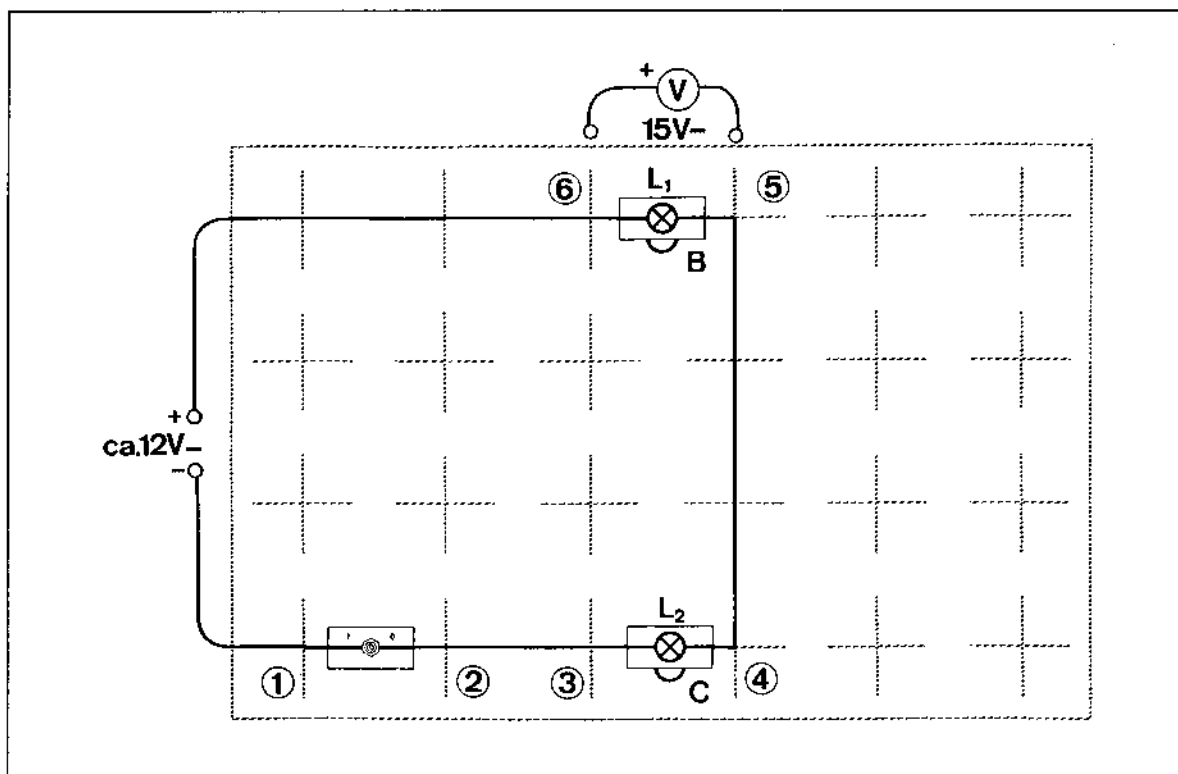

Fig. 1 Experiment setup: Measuring the voltage in a simple circuit
1. Build the circuit shown in fig. 1 – leaving out the voltage source.